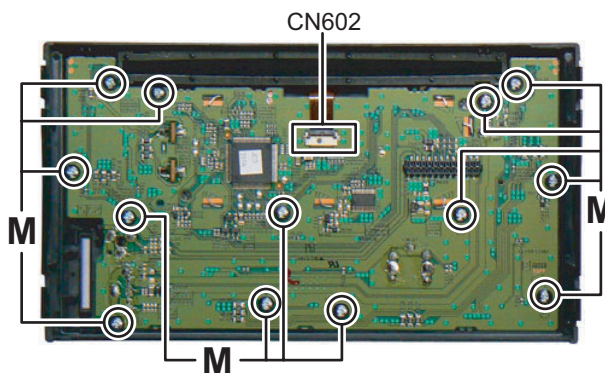

Fig.8
3.1.5 Removing the Switch unit (See Fig.8)